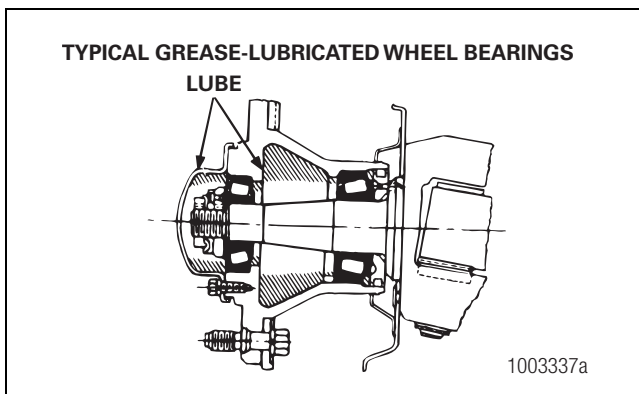

Figure 10.1
5. Before installing the wheel bearings, lubricate the bearing journals on the spindle with the grease that is used for the bearings. Figure 10.1.